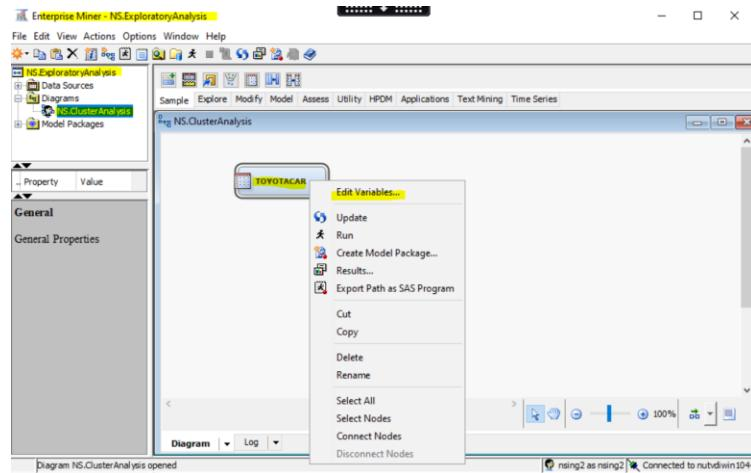

Figure 3
4. To perform the cluster analysis now we need to set the roles and levels of the variables in our ToyotaCar data set. The description, roles, and variable type (levels), of all the variables of the ToyotaCar data set is provided in the Appendix at the end of this document. As shown in Figure 3 Right click on ToyotaCar node to edit the roles and levels of all the variables by clicking on “Edit Variables”.